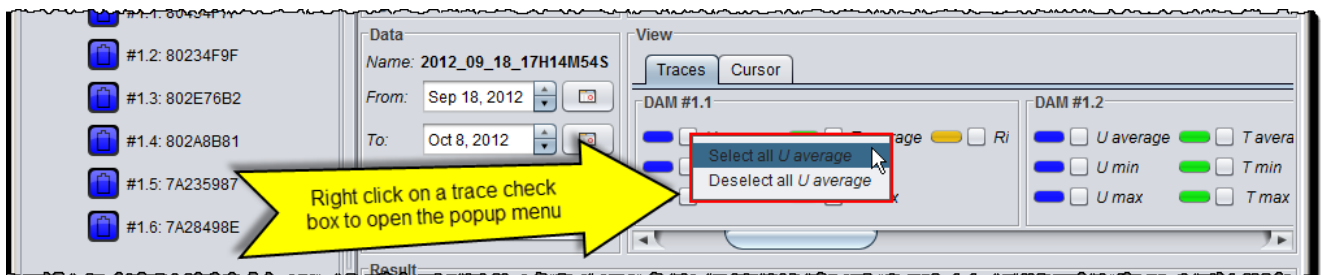

Figure 63: Multiple traces selection
1. Right click on the “*U average*” check box on any battery of the string as shown on Figure 63.